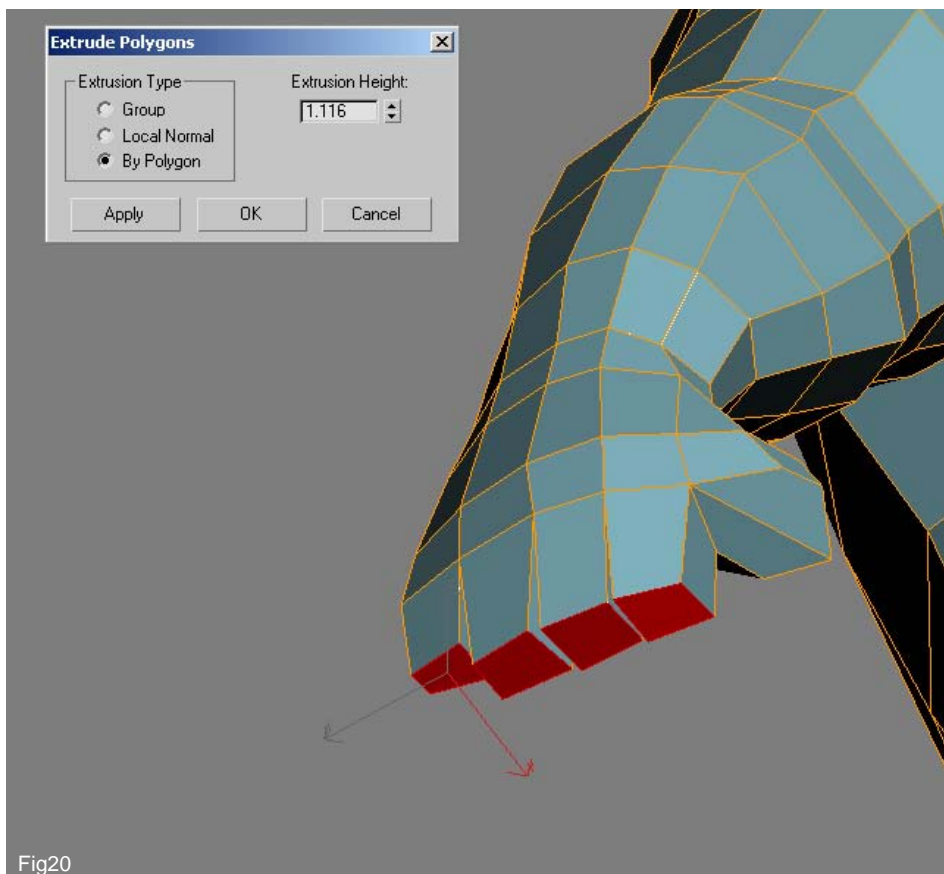

Fig20
20. Select these four poly's and extrude them downwards making sure to select "By Polygon" (Fig20).